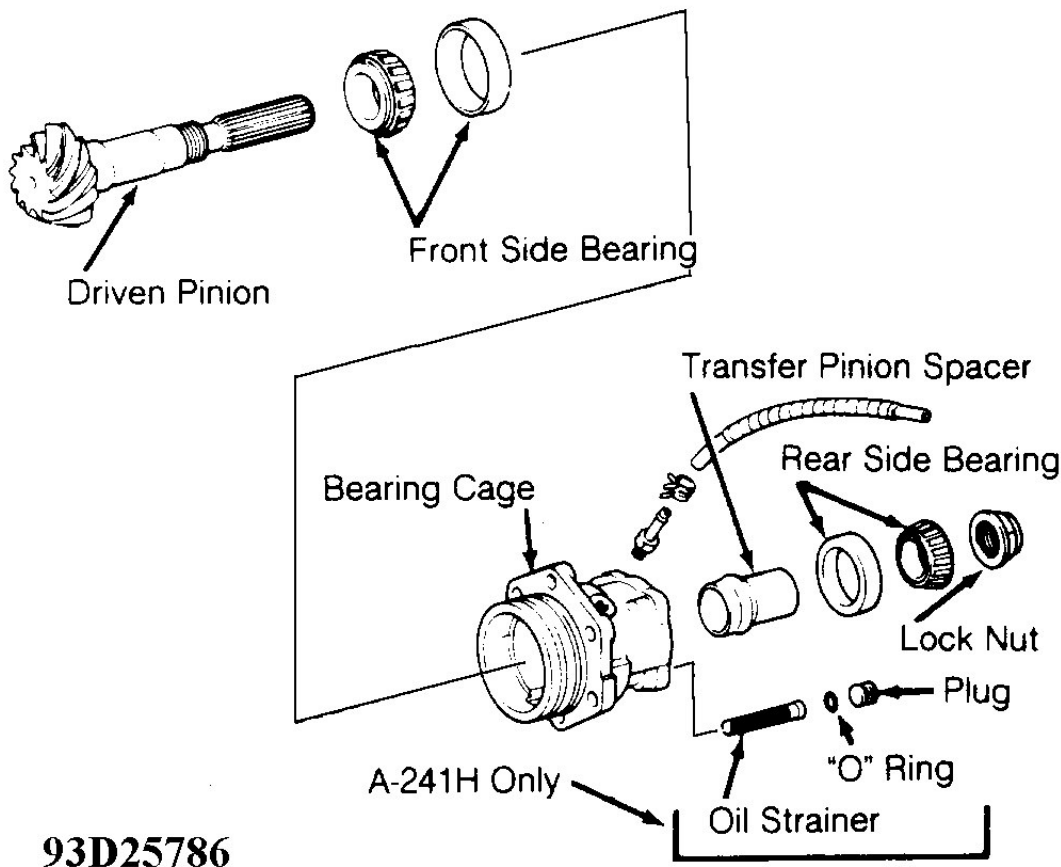

Fig. 53: Exploded View Of Transfer Driven Pinion Bearing Cage (A-241H Shown; A-540H Is Similar)
2. Remove driven pinion, rear side bearing and spacer with arbor press. Using Bearing Remover (09950-00020), remove front side housing. Using brass bar and hammer, remove bearing outer races. See **Fig. 53**.